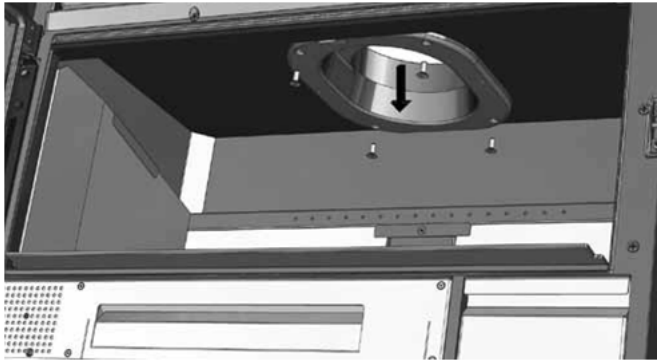

FIG. 11
1. Remove the four screws holding the collar to the top of the fireplace (fig. 11).